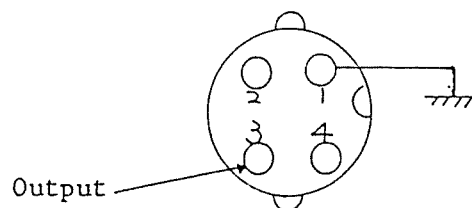

Fig.3-11 Output connection of the AF oscillator
- (1) Depress ☐ or ☐ button of ① to set the measurement item to [AUDIO SENSITIVITY] of ②.
- (2) Set [LEVEL dBm] range of ③ to [+ 20 dBm].
- (3) Turn [MOD SELECT] switch to [1 kHz].
- (4) Pull [LEVEL (HIGH)] knob of ⑤ and turn it clockwise, and the level meter of ⑥ will deflect and indicate an output level of 1 kHz.
- (5) The output signal of 1 kHz is available at the microphone connector of ⑦.
The connection of the microphone connector of ⑦ as viewed from the panel from is shown in Fig.3-11.